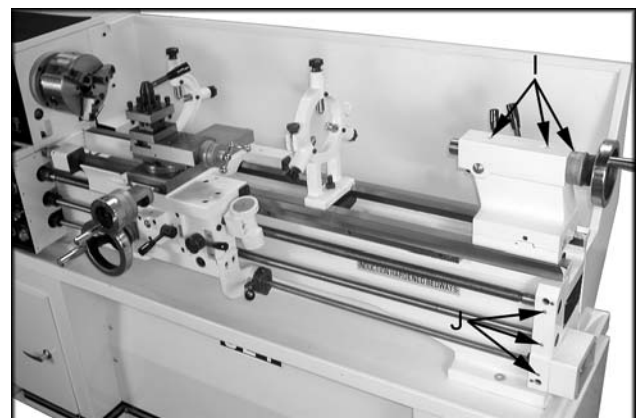

Fig. 7
12. **Tailstock** - Lubricate three ball oilers (I, Fig. 7) once daily with Mobil DTE® Oil Heavy Medium.
13. **Leadscrew/Feed Rod** - Lubricate three ball oilers once daily (J, Fig. 7) with Mobil DTE® Oil Heavy Medium.